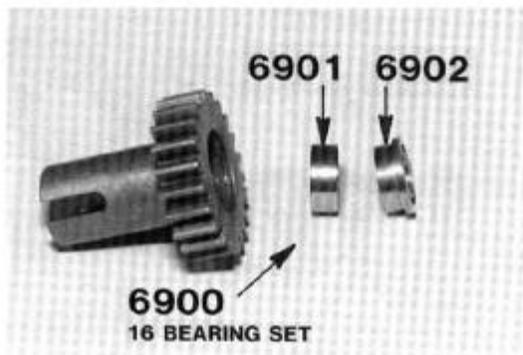

FIG. 40
□ **FIG. 40**—If you have the ball bearing kit, drop in the small unflanged bearing #6901 first and then the flanged bearing #6902.